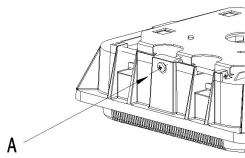

Figure 2
- STEP 1.** Loosen (but do not remove screw A (see Figure 2), which holds the mounting plate in place.
- STEP 1.** Slide the mounting plate toward Screw A, and then remove it from the luminaire body (see Figures 2, 3 & 4).